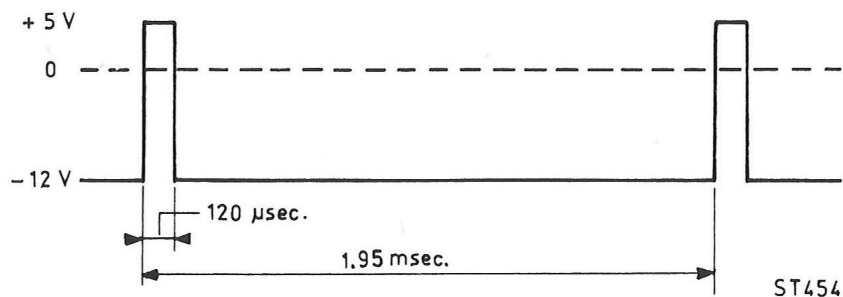

Fig. 28. Clock pulse
- Check the pulse form (Fig. 28).